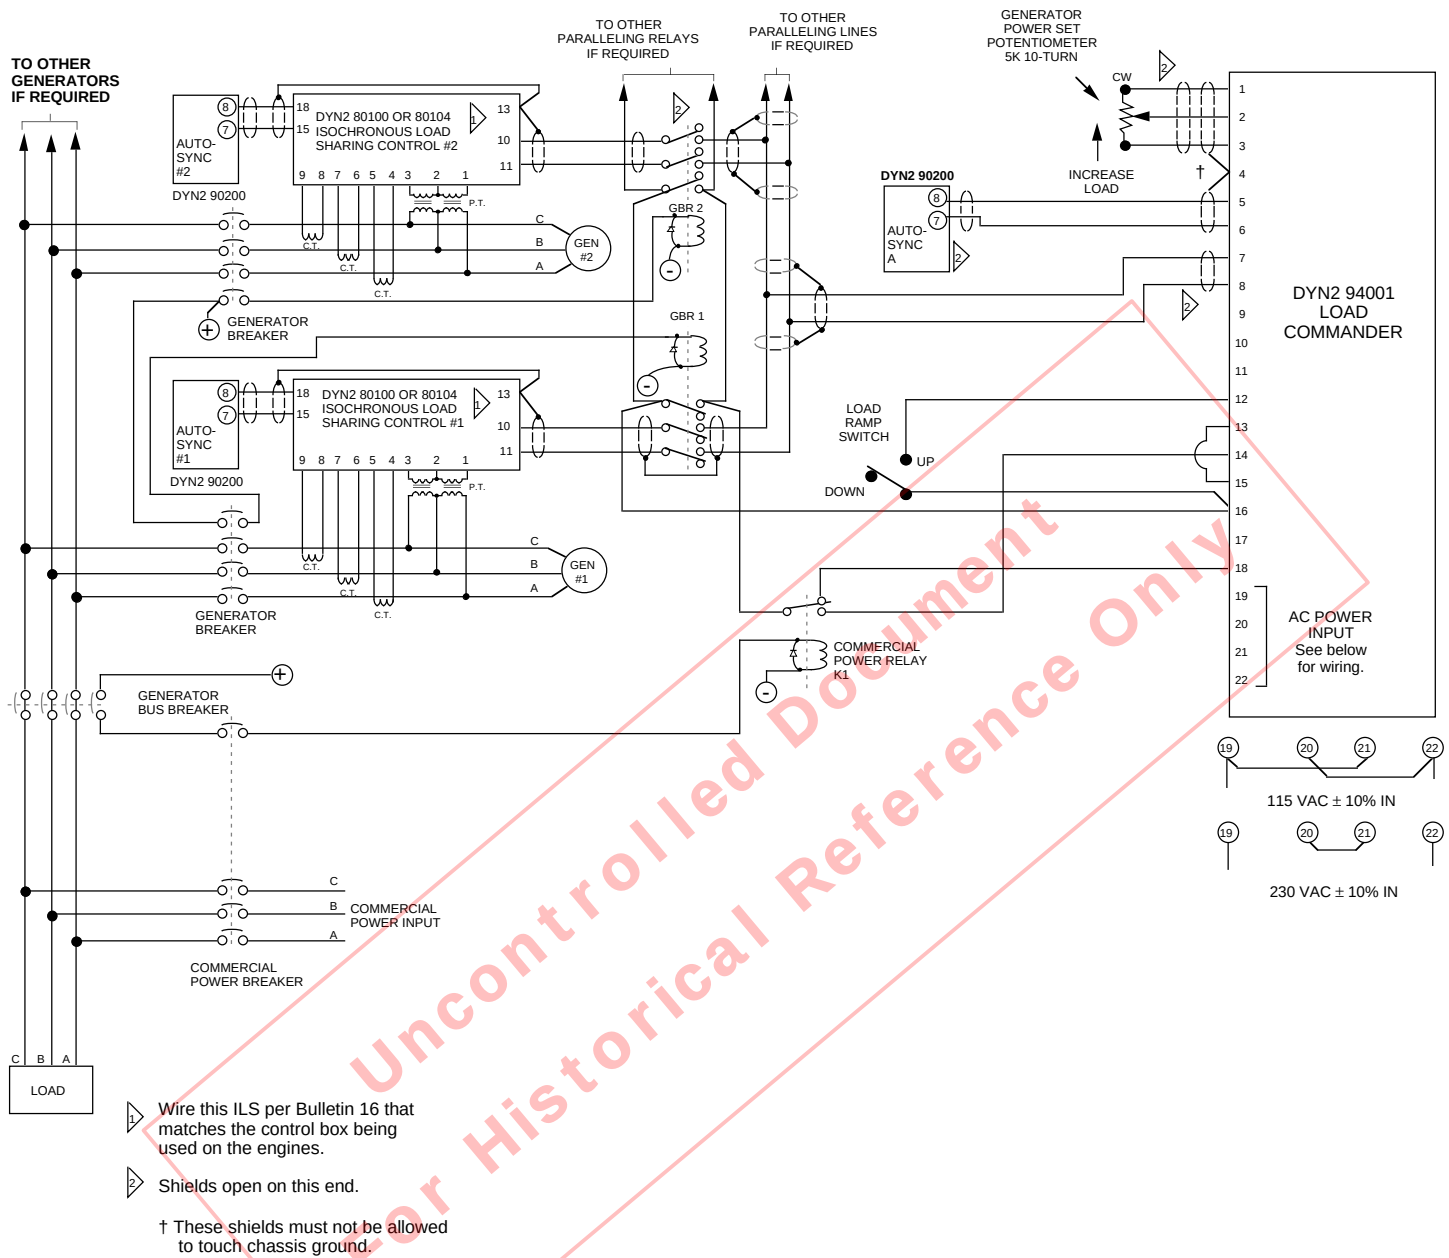

Figure 4. Typical System I Wiring Diagram for Load Commander Using Two Generators (See Figure 1)
(See Figure 4 for Typical Wiring Diagram)
1.1 Wire system in accordance with proper wiring diagram. (See Figures 4 and 5 for typical wiring diagram).
3.4 Set the **GAIN** adjustment in the DYN2-94004 to the counterclockwise position (It is a 1 turn potentiometer). See Figure 4.